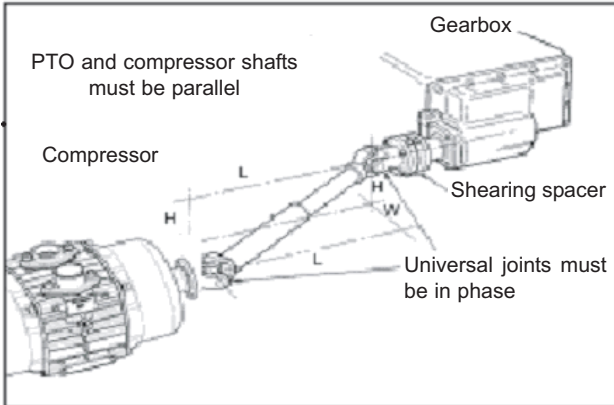

Figure 5
2.3 Drive shaft - See Figure 5